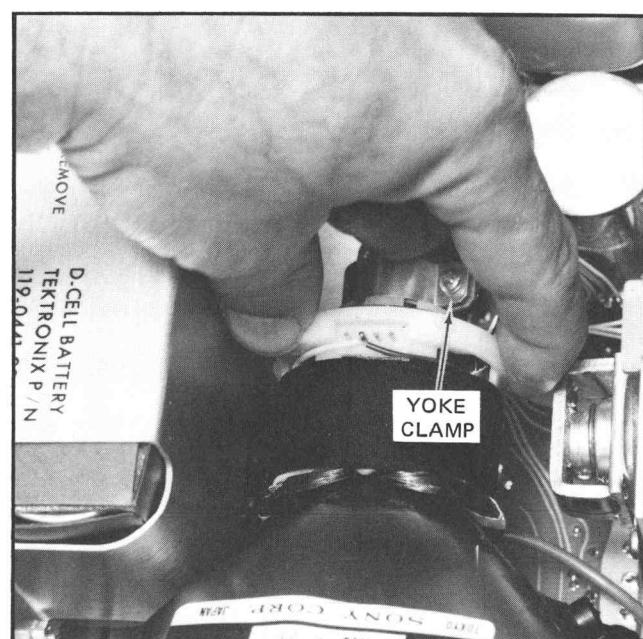

Fig. 5-4. Deflection Yoke adjustment.
- b. Loosen yoke clamp (Fig. 5-4).
- c. ROTATE—Yoke for non-tilted trace (Fig. 5-4).